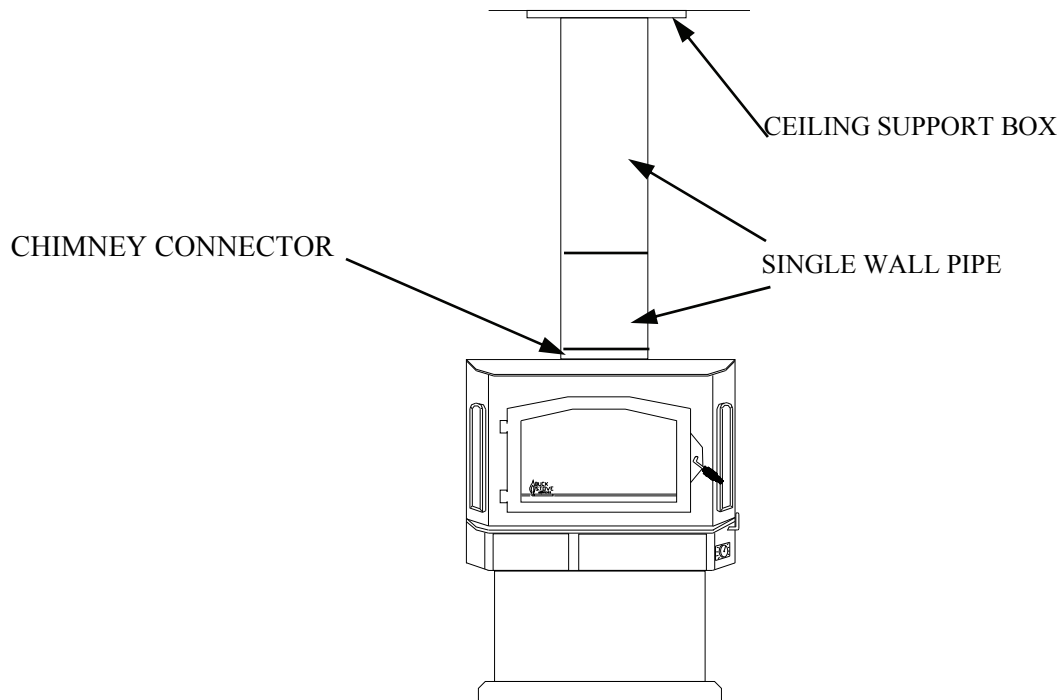

Figure 13
5. Using single wall chimney connector, connect the heater to the chimney by following manufacturer's installation instructions exactly. (See Figure 13.)